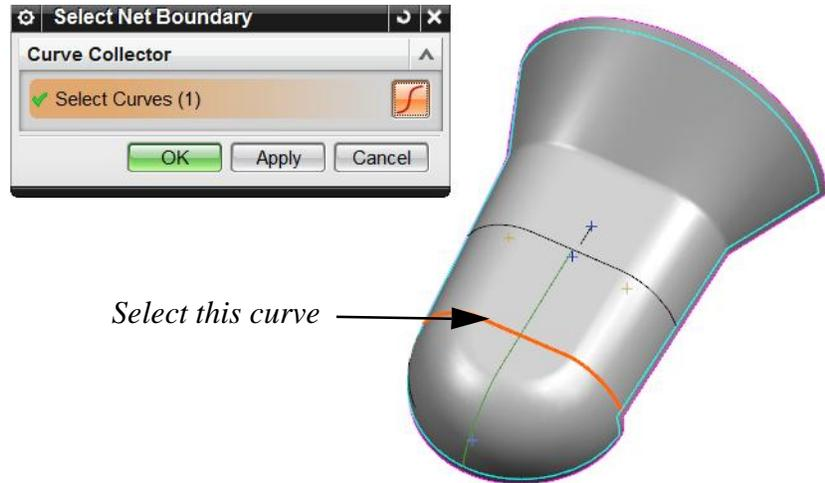

Figure 4–24
6. Select the boundary indicated in Figure 4–24.